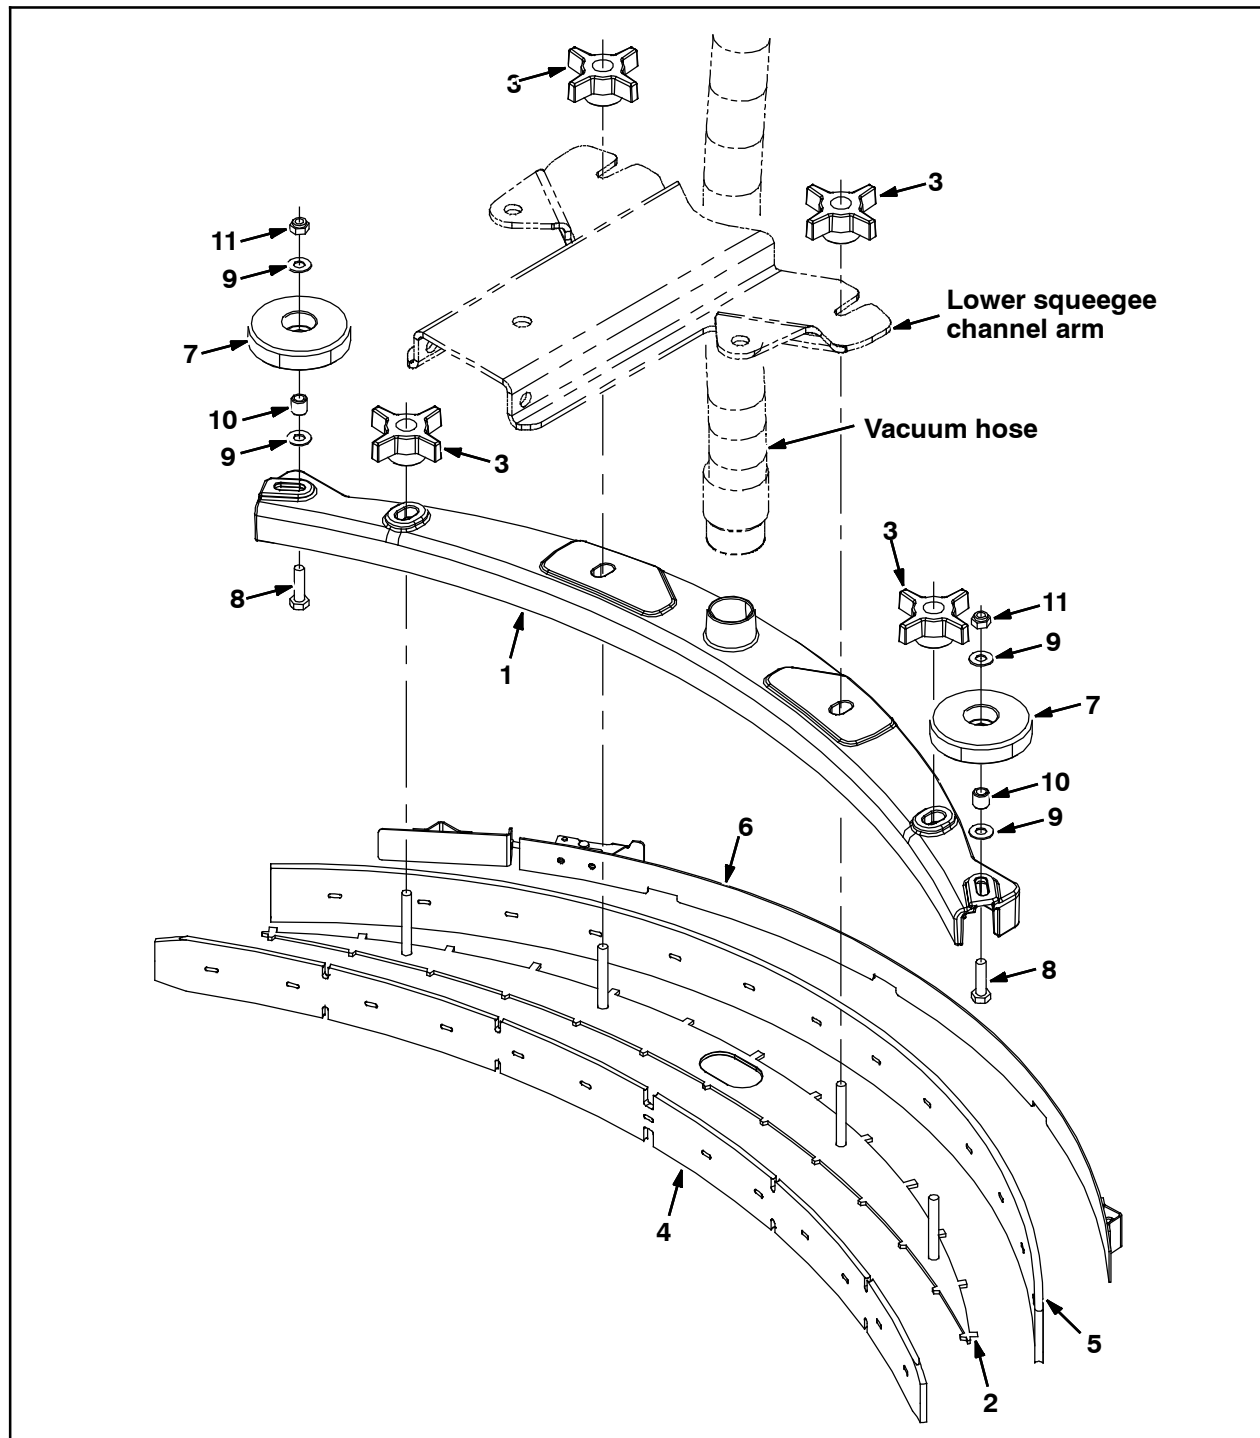

FIG. 8
1. Remove the vacuum hose from the rear squeegee assembly. Refer to Fig. 8.
NOTE: For the remainder of this Instruction Bulletin, refer to Fig. 8 for additional information pertaining to part locations and orientation on the squeegee assembly.
11. Tighten the star knobs (3) to secure the squeegee retainer plate (2) into place inside the squeegee frame (1). Refer to Fig. 8.
12. Use the two remaining star knobs (3) to install the squeegee assembly onto the lower squeegee channel arm. Refer to Fig. 8.
13. Install the vacuum hose onto the rear squeegee assembly. Refer to Fig. 8.